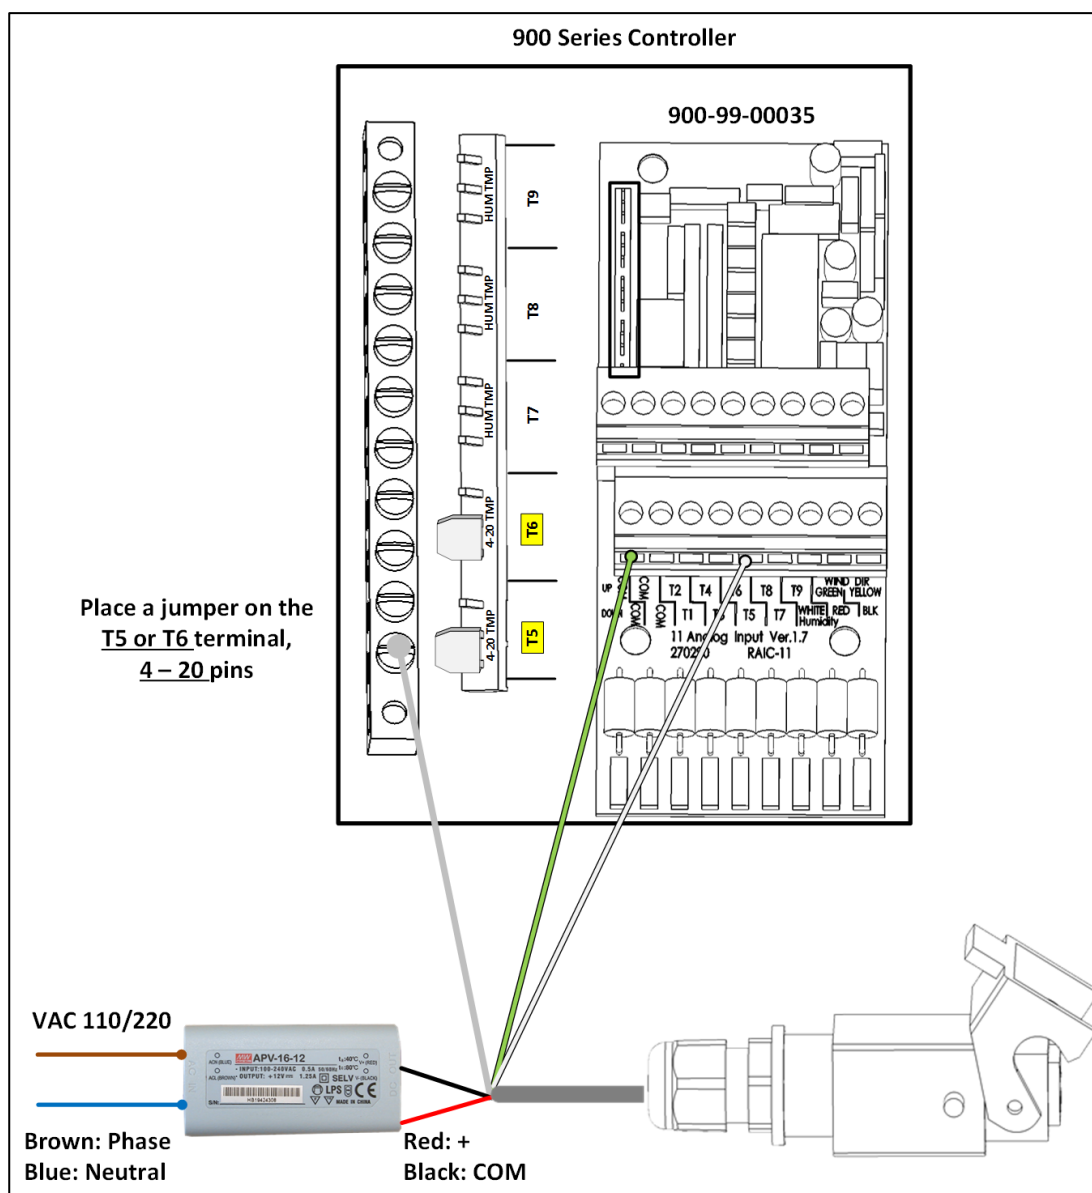

Figure 10: Platinum Power Supply Wiring
- Connect the sensor to the Platinum Controller (Figure 10, page 10)
1. Attach the other end of the sensor cable to the power supply and Platinum Analog Input Card as indicated in Figure 10.
Readings are off the scale, even when fresh air is present.	Verify that there is a jumper on the Platinum Analog card, placed on T5 or T6, set for 4 – 20 mA (refer to Figure 10).